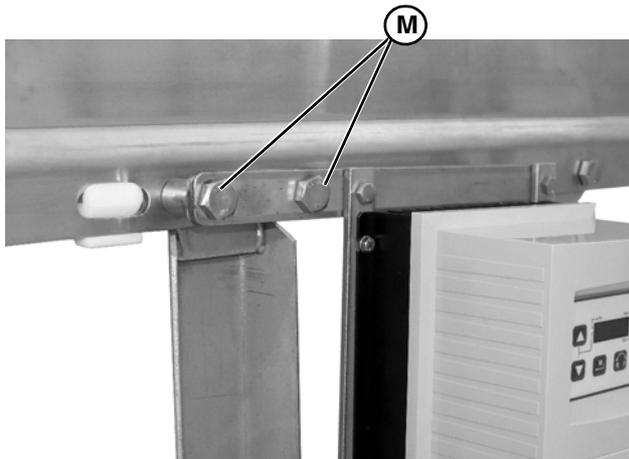

Figure 9
- Install assembly to conveyor at stand location. Remove stand screws and replace with new screws (Figure 9, item M).